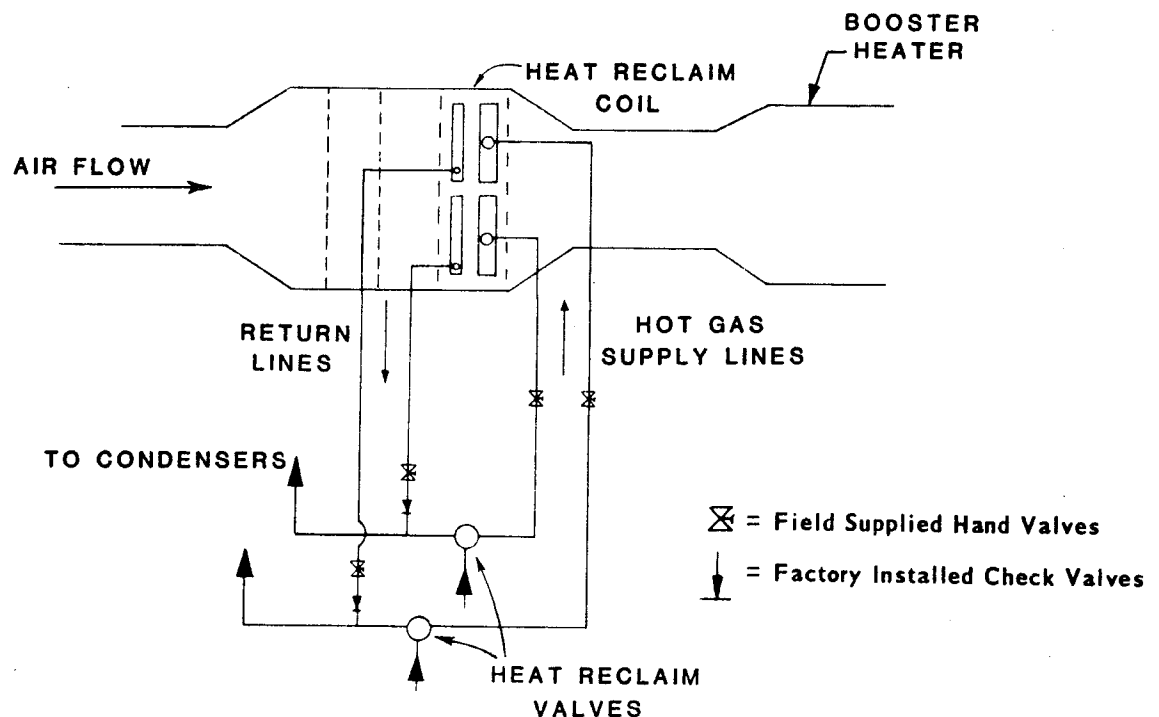

Figure IX-11
1. Supply Line - Connect a supply line from the stub marked "Inlet Heat Coil" on the Plus System compressor unit to the inlet header on the heat reclaim coil. The inlet stub leads from a reversing valve located at the oil separator end of the compressor unit. See Figure IX-11. A hand valve located in the supply line is recommended.
2. Return Line - Connect a return line from the stub marked "Heat Coil Return" on Plus System to the liquid header (bottom connection) on the heat reclaim coil. See Figure IX-11. A hand valve located in the return line is recommended.